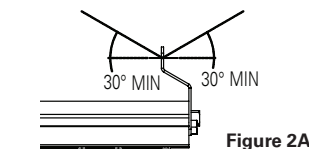

Figure 2A
3. Mount the stainless steel chain mount brackets on luminaire using two (2) hex head 3/8-16 x 1/2" screws. Torque 3/8-16 screws to 236 in.-lbs.
4. Fixture is now ready for mounting with chain. Chain angle must be greater than 30° in relation to light fixture (see Figure 2A).